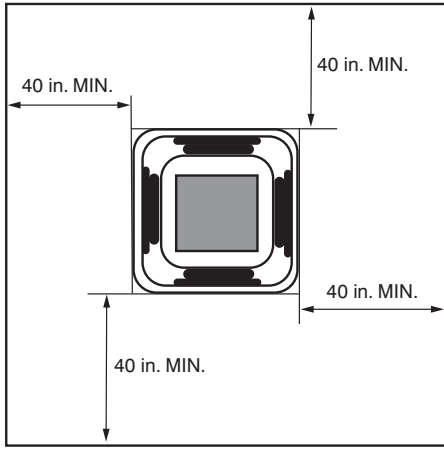

Fig. 4 —Distance from Wall or Obstruction
- The unit should be at least 3-¹/₄ feet from a wall or similar obstruction. See Fig. 4 below.